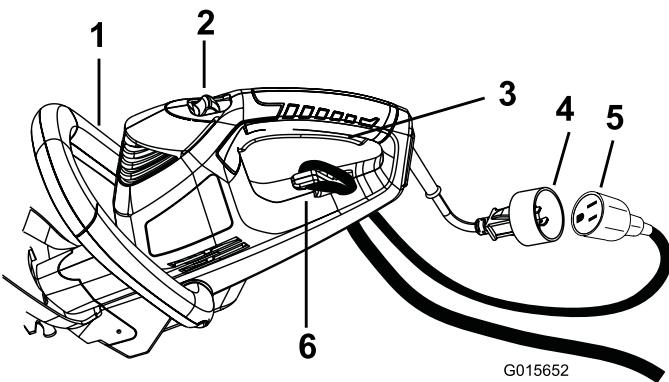

Figure 1
4. Plug product into extension cord (Figure 1).
2. Attach an extension cord to the trimmer (Figure 1).
4. Slide the lock switch backwards, towards you, then squeeze the trigger switch to turn on the hedge trimmer (Figure 1). The trimmer will stay on as long as the trigger switch is squeezed. Lock-off switch may be released once hedge trimmer is running.
1. Release the trigger switch (Figure 1).